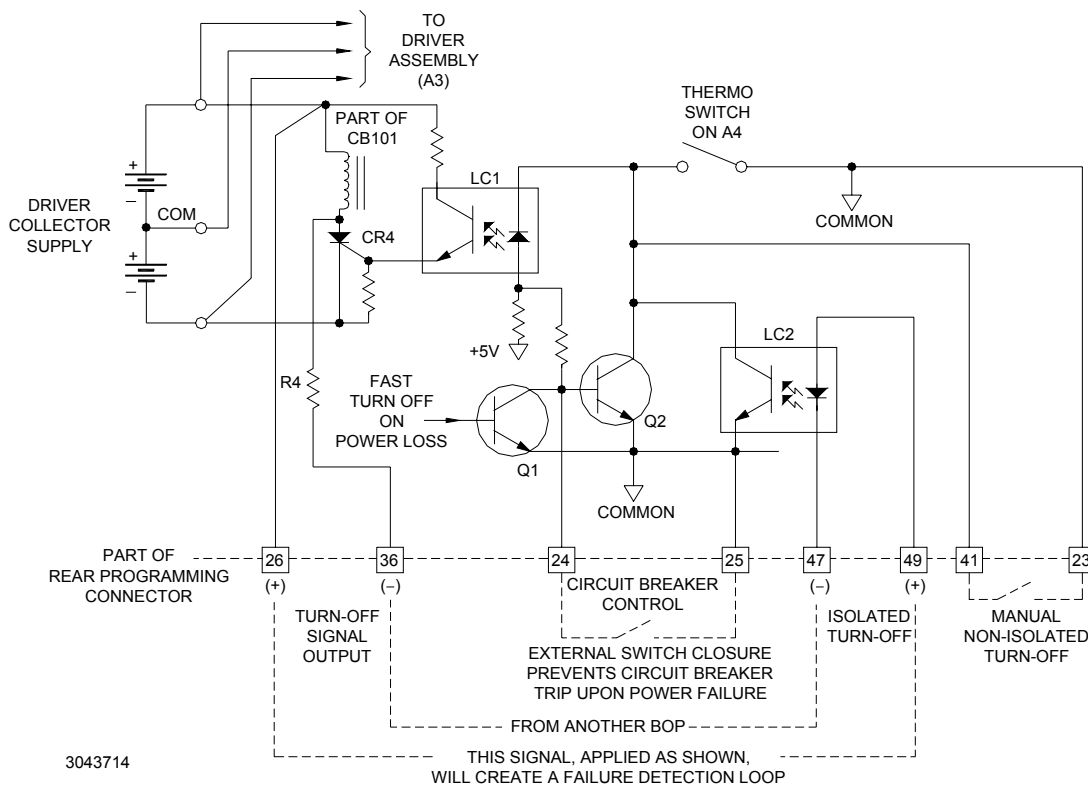

FIGURE 2. CIRCUIT BREAKER CONTROL CIRCUIT, SIMPLIFIED DIAGRAM.
The BOP is protected by the dual-coil circuit breaker/ON-OFF switch (CB101) as shown in Figure 2. The current sensing coil of CB101 is connected in series with the primary winding of T201, thus detecting overcurrents reflected into the primary circuit and subsequently tripping the circuit breaker. The voltage sensing coil of CB101 is connected in series with an SCR (CR4) across the driver collector supply. If the SCR is triggered on, the voltage sensing coil is energized and trips the circuit breaker. The SCR (CR4) can be triggered in several ways:
- A manual, non-isolated turn-off is provided which, when implemented with an external switch contact as shown in Figure 2, will energize the diode in the first optocoupler (LC-1), thus providing the SCR turn-on.